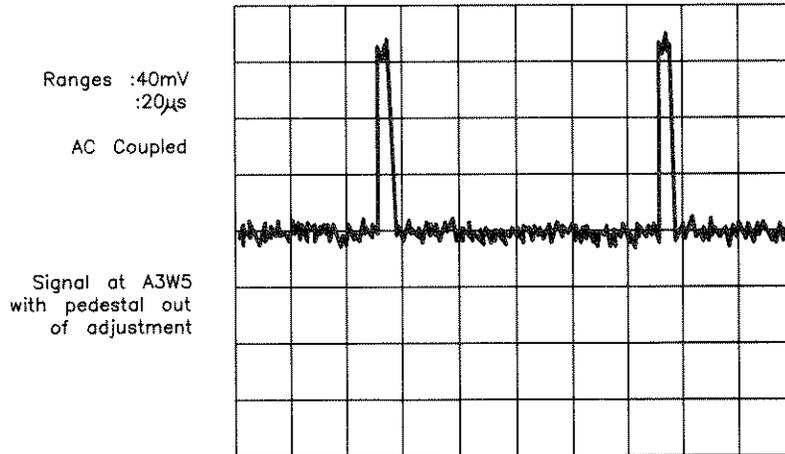

Figure 5-19. Oscilloscope Display with Pedestal Needing Adjustment
4. Refer to Figure 5-19 and adjust A3R562 (PED) for a minimum peak value.